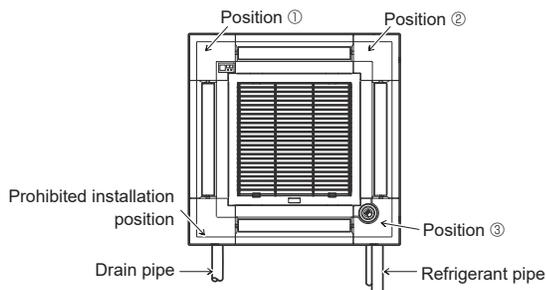

Fig. 7-11
The signal receiver corner panel can not be installed on the drain pipe side for the main unit. (Refer to Fig. 7-11)
- The i-see Sensor corner panel should be fixed onto the grille (D) with screw (F).
- If the position of the i-see Sensor was changed from default position (position ③) to the other position, change the function settings. (Fig. 7-11)
- The i-see Sensor corner panel can not be installed on the drain pipe side for the main unit. (Refer to Fig. 7-11)